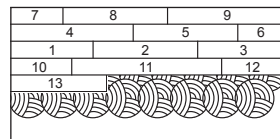

Figure 12d
- Be sure not to spread adhesive too far ahead of your work area (Figure 12d).